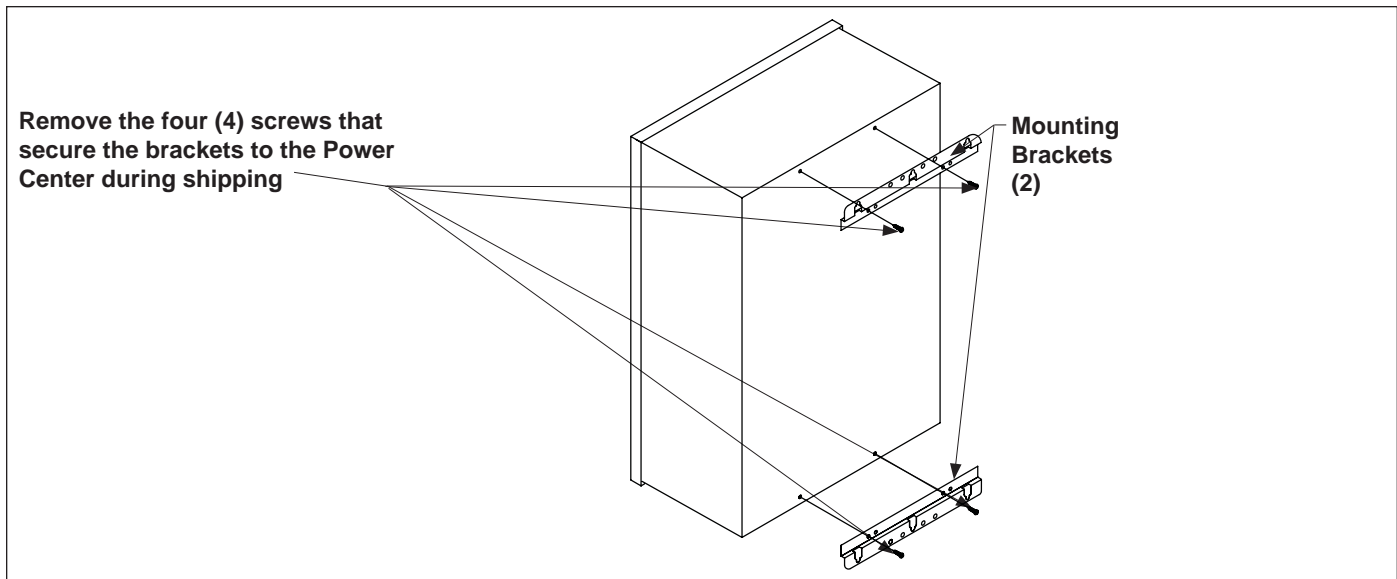

Figure 6. Removing the Power Center Mounting Brackets from Shipping Position
2. The power center comes with two full length, heavy duty mounting brackets *fastened* to the back of the Power Center during shipping. Remove the four (4) screws that are holding the two (2) brackets and the cardboard shipping cover in place (see Figure 6). Remove and discard the cardboard.